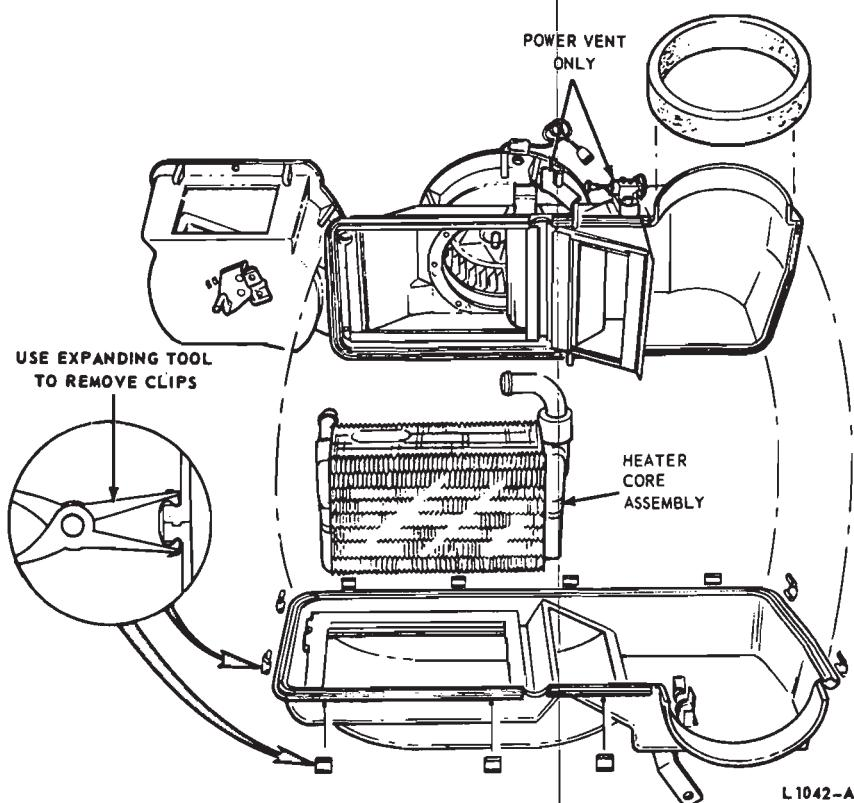

FIG. 36—Heater Core Removal—Mustang and Cougar
3. Remove eleven clips from the heater assembly flange and separate the heater assembly housing (Fig. 36).
2. Assemble the heater assembly housing and install the eleven clips (Fig. 36).